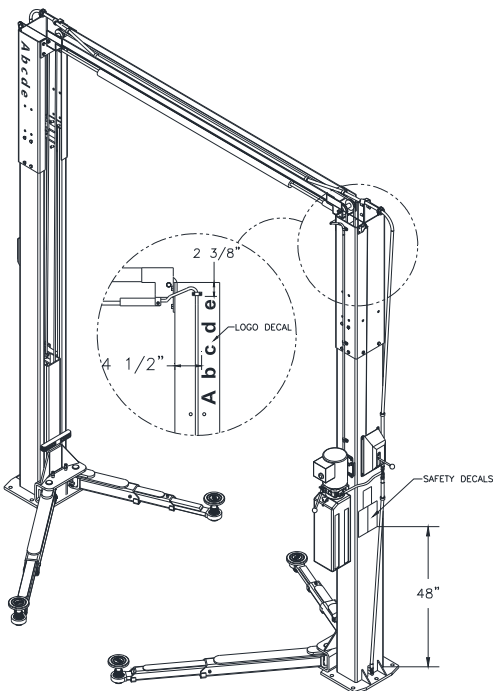

Fig. 11 – Safety & Logo Decal Placement
- 42) Apply the Safety Decals (Pg. 3) 48" above the base plate on the power column and the Logo Decal 48" above the base plate on the idler column. **Fig. 11.**